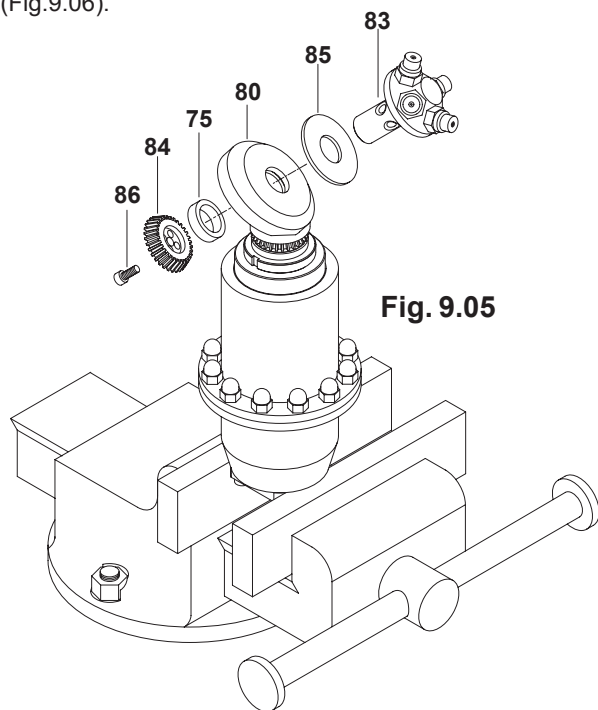

Fig. 9.05
9.3.02) Remove the crown pos.84, the spacer pos.75 and slide the nozzle holder pin pos.83 out with the washer pos.85 (Fig.9.05).